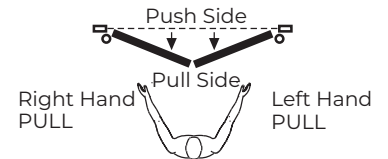

Fig. 1
1. Determine right hand or left hand installation. (Fig. 1)